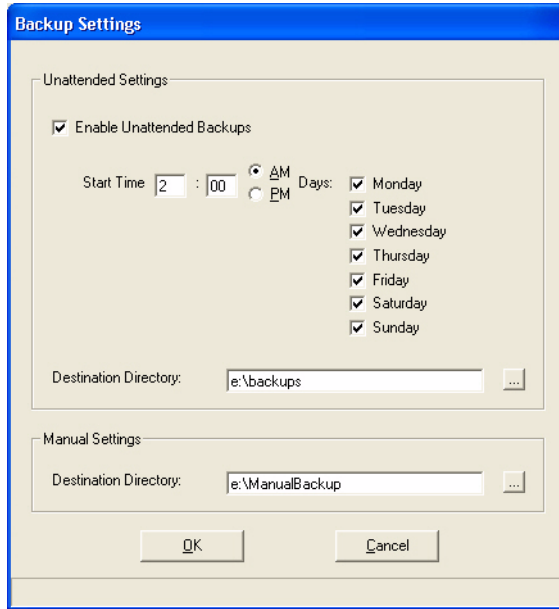

Figure 7-59 Backup Settings Window
1. Select **System > Backup Settings** to access the Backup Settings window. See Figure 7-59 below.